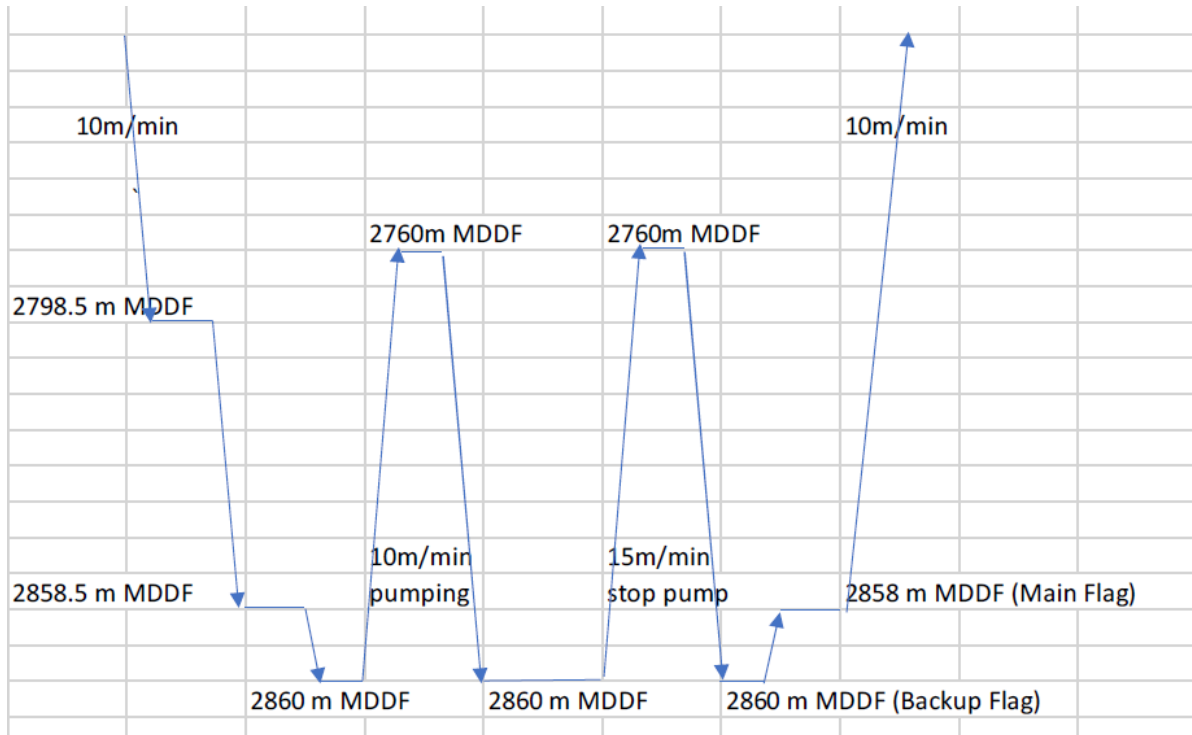

Figure 2: Actual SMART Blaster + GRCCCL Running Sequence
7. Once completed, continue with GRCCL sequence as per Figure 2